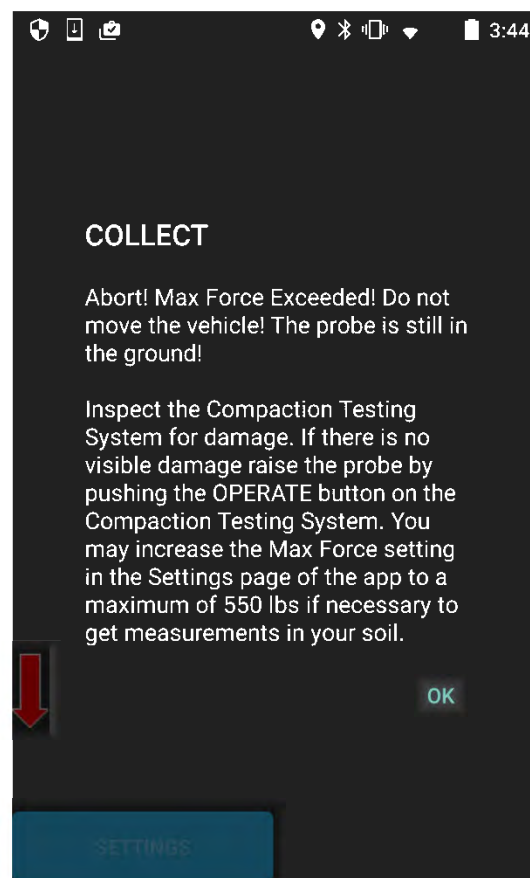

FIGURE 24
37. If during a sample the message in **Figure 24** appears that means the max force setting for the CTS 1000 was exceeded, the probe has stopped, and the probe is still in the ground. Go inspect the Compaction Testing System for damage. If there is no visible damage raise the probe by pushing the OPERATE button on the Compaction Testing System. You may increase the Max Force setting in the Settings page of the app to a maximum of 550 lbs if necessary to get measurements in your soil. If the max force was exceeded due to hitting a rock or some other anomaly it is recommended to not increase the Max Force setting.